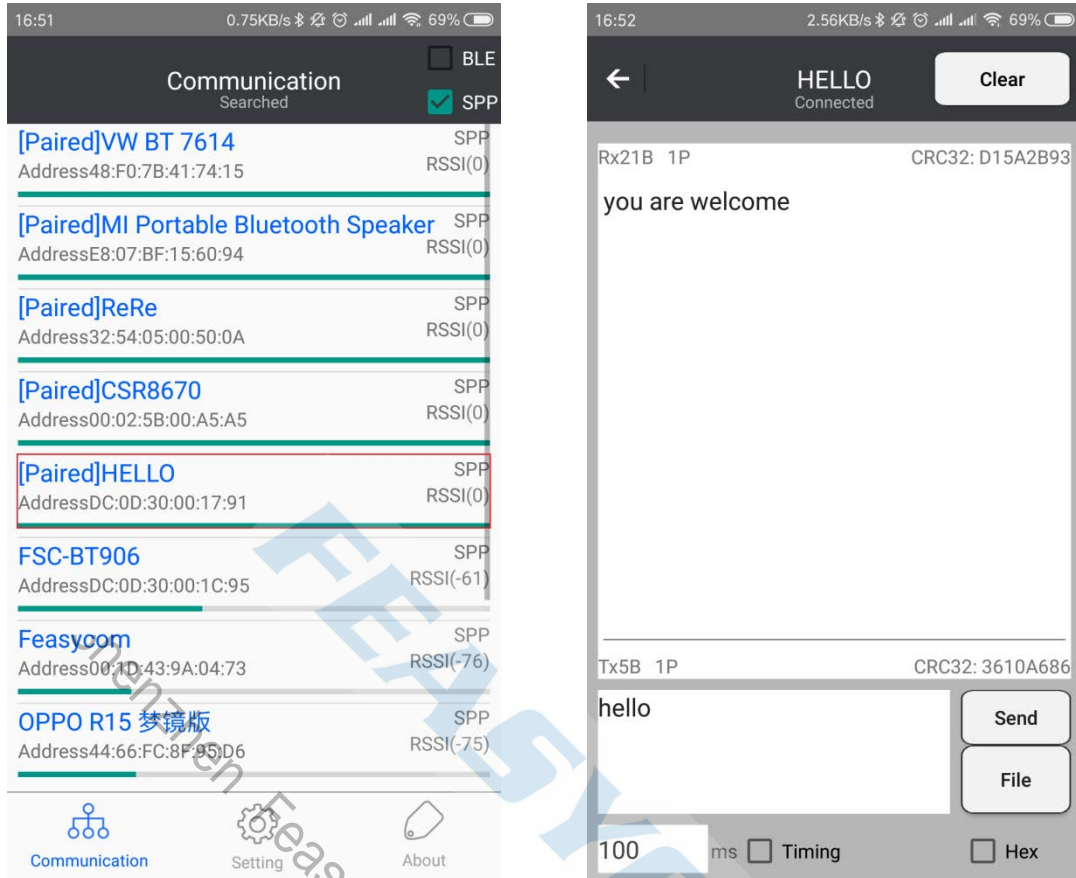
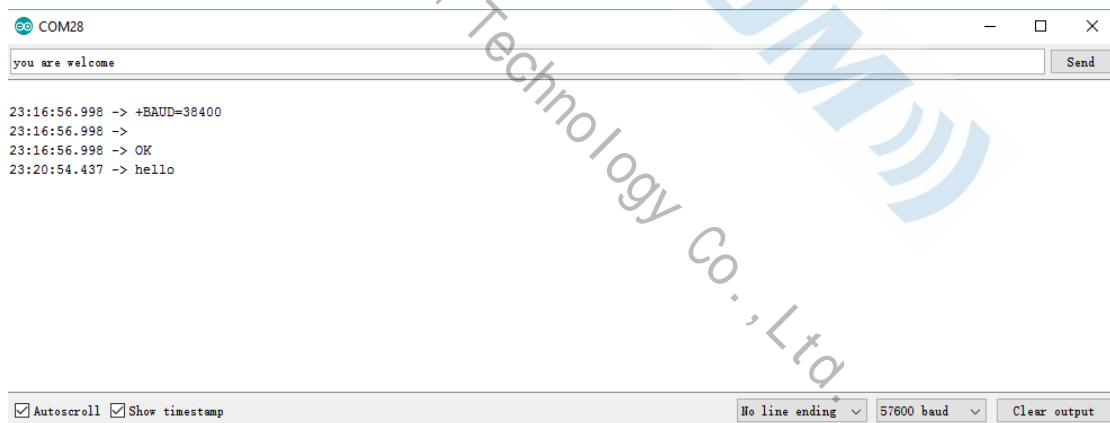

Figure 6. Connect and Transmission with FeasyBlue
Figure 7. Transmission with Serial Monitor
5. Install the app named ***FeasyBlue*** from App Store (e.g. Google Play) on your smartphone. Open FeasyBlue app, click the device named "HELLO" and establish connection (Figure 6).
6. Send "hello" from app (Figure 6), you can get the message in Serial Monitor (Figure 7).